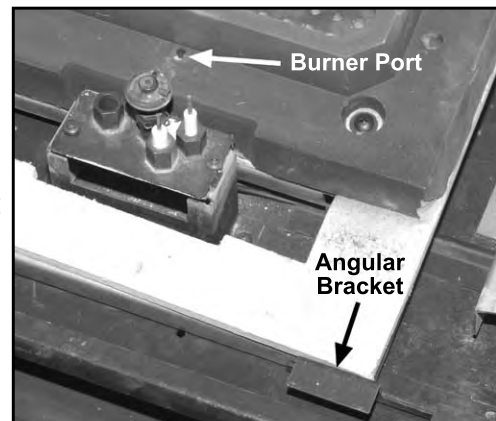

Figure 85: Glass Burner in Place.
2. Pull the burner forward up to the angular brackets near the front of the firebox (see Figure 85). The burner rests on the floor of the firebox and is properly aligned against the two (2) front burner rests.
4. In front of the pilot assembly, on the front edge of the burner is one burner port which helps in the lighting of the main burner (see Figure 85). The glass tray has one hole in the same position that allows the gas to flow to this location. Ensure the glass tray hole is properly positioned over the port in the burner.